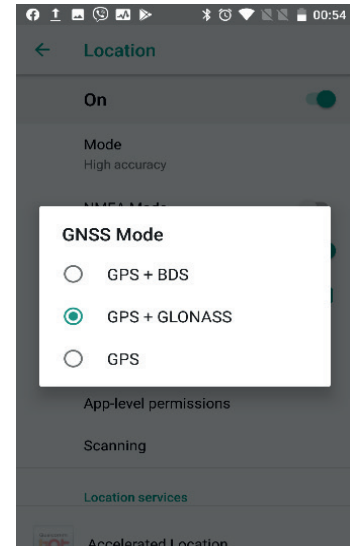

Figure 28: Trimble TDC600 - GNSS modes
4. Similarly, the following options appear when the user clicks on “GNSS Mode” (Figure 28):